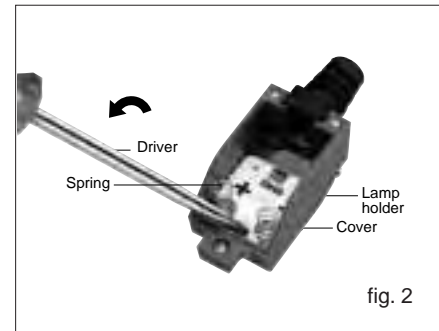

fig. 2
1) As shown in the photograph (fig. 2), insert a flatblade screw driver in the gap between the cover and the part of the indicator holder indicated by the arrow in the direction of insertion, and raise the lamp a little.